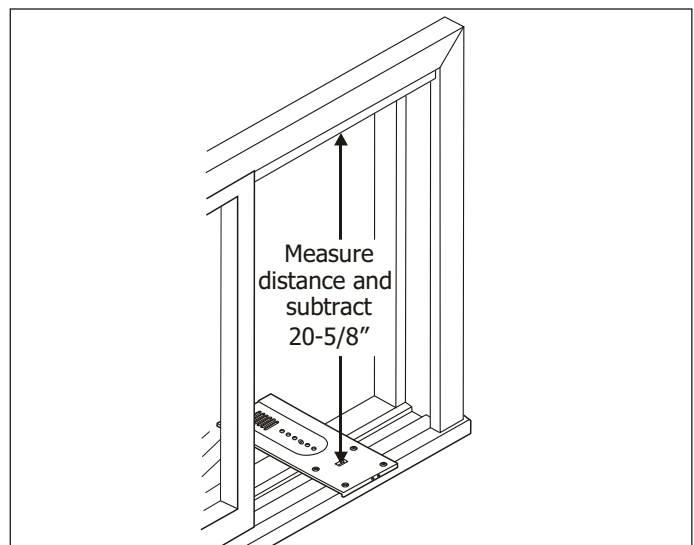

Figure 2-42.
9. Measure height of window opening from top of platform assembly as shown right. Subtract 20-5/8 inches. Mark this measurement on plastic window panel along the longer side. (See Figure 2-42)